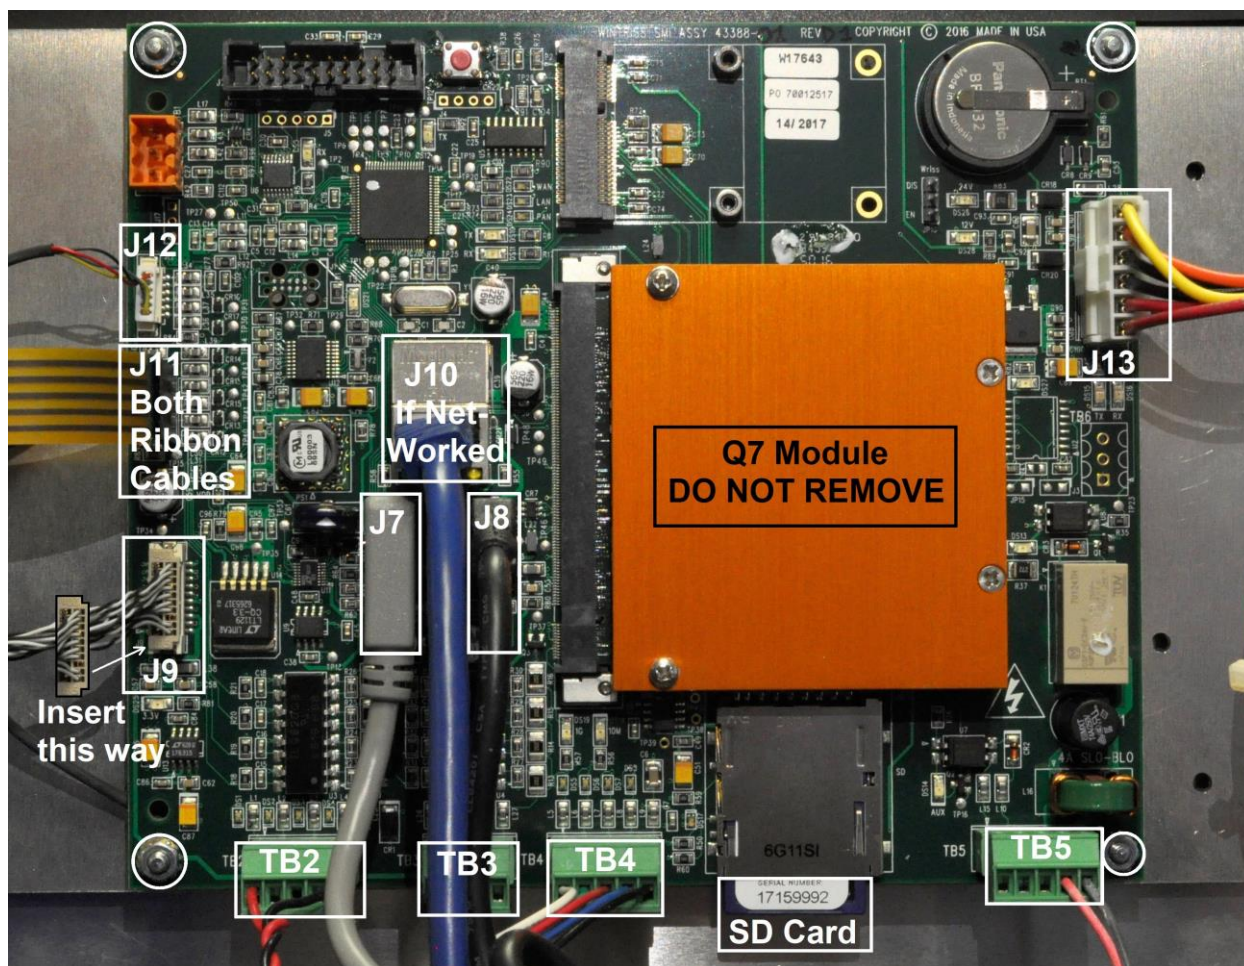

Figure 1. SmartPAC PRO HMI Board
3. If your replacement board was shipped with an SD card (component U124, outlined in white, Figure 1 on page 3), verify that the serial number located on its label matches the serial number on the SD card on the board being replaced.
7. Making sure you are grounded, unplug all wired connectors and cables from the SmartPAC PRO HMI board (Outlined in white, Figure 1, next page).
Do not remove the orange Q7 (Industrial Computer) module (See Figure 1 next page).
8. With a ¼-in. nut driver, remove all four ¼-in. nuts (Circled in white, Figure 1 next page).
12. If your replacement board was not shipped with an SD card (Outlined in white, Figure 1 above), carefully eject and remove it from the old board and insert it into the new replacement board's SD card receptacle.
13. Install the replacement board in the enclosure, or on the mounting plate if your unit is a panel mount, reusing the four ¼ -in. nuts you removed in step 4 and tighten them down with the ¼ in. nut driver. Refer to Figure 1 page 3 for correct placement.
14. Plug all the connectors and cables you removed in step 3 back into the new replacement board. Make sure to insert the display connectors (J9 and J12, Figure 1 page 3) into the board with the correct orientation. **Double check your work and verify that all connectors and cables are seated properly.**